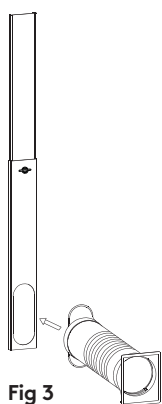

Fig 3
3. Install the exhaust air duct and its accessories into the window kit in the direction indicated by the arrow in Fig 3